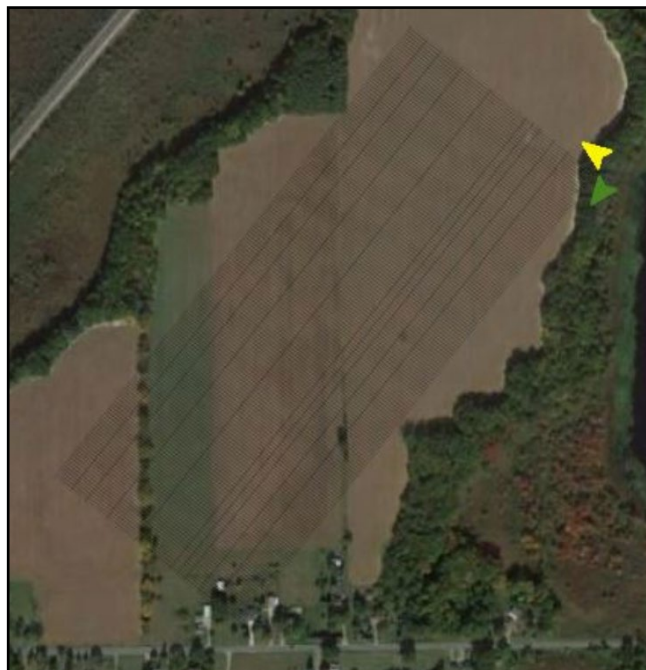

Figure 16-2
6. The Grid will appear over the image with the orientation that was specified. See Figure 16-2.